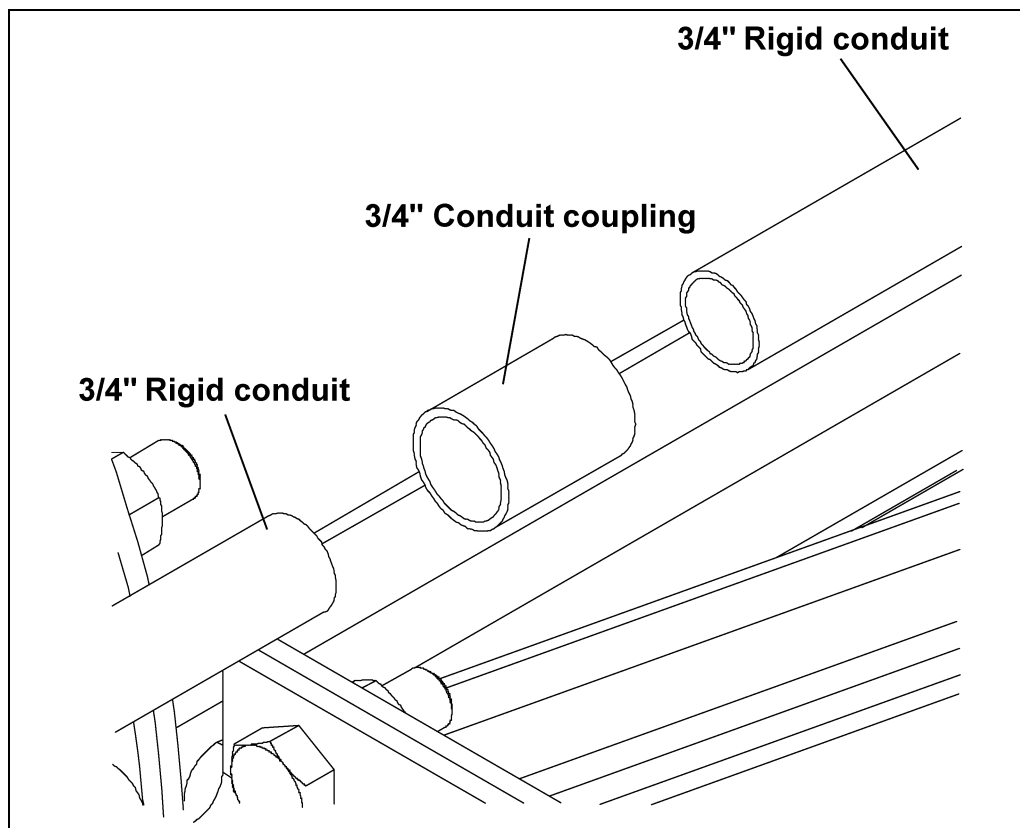

Figure 5AI
- B. Connect the rigid conduit together using one 3/4" conduit coupling between each piece of conduit. (See Figure 5AI.)